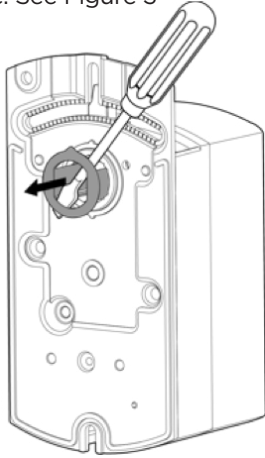

Figure 3. Removing 1/2-inch Ø Shaft Guide for 3/8-in or 5/8-in Shaft.
When using a 3/8-inch shaft: Remove factory-installed 1/2-inch guide. See Figure 3
1. Remove factory-installed 1/2-inch guide. See Figure 3.